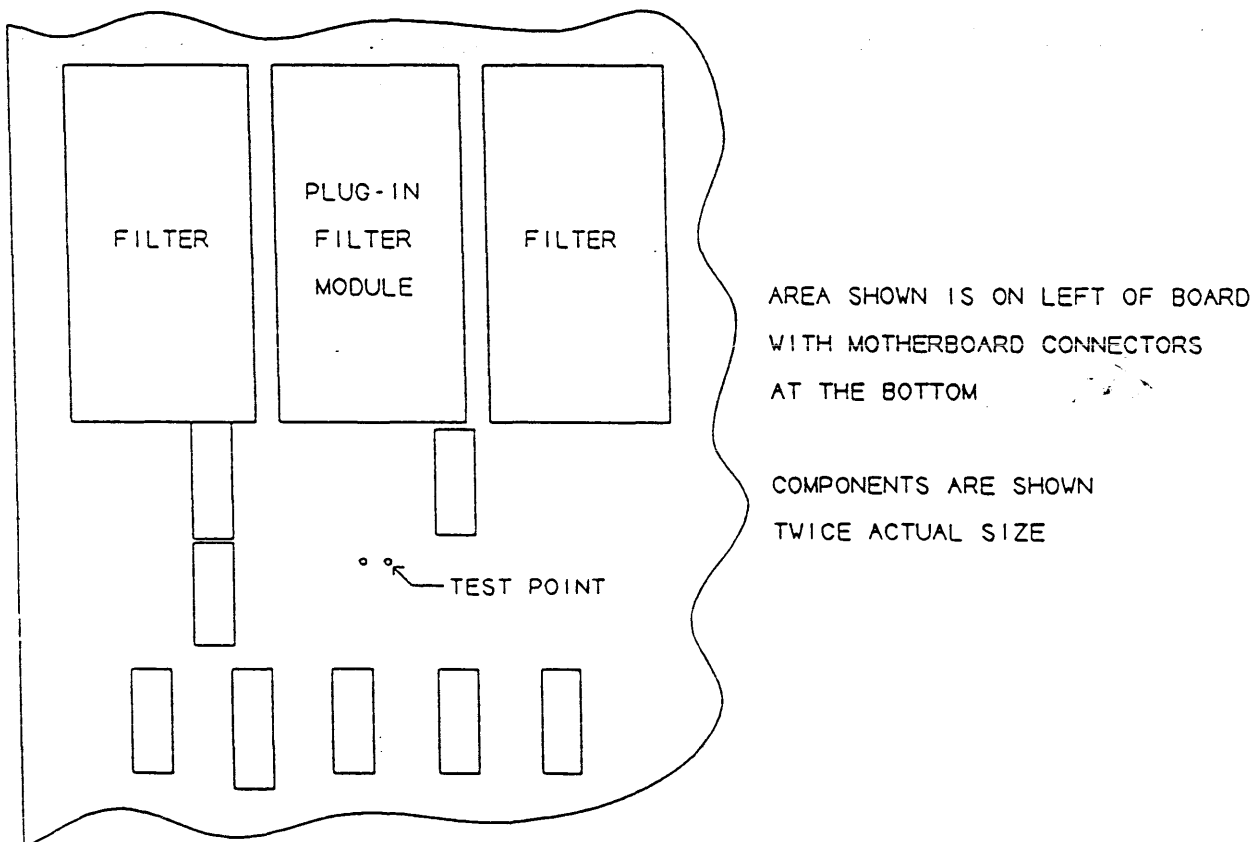

FIGURE B.2.1 ADP MONOSTABLE TEST POINT
- (ii) connect an oscilloscope to monostable test point on the ADP board; see Figure B.2.1;